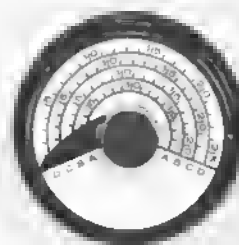

Figure 91
2. Adjust the justifier dial pointer so that it aligns exactly on "0" of the scale (Figure 91).